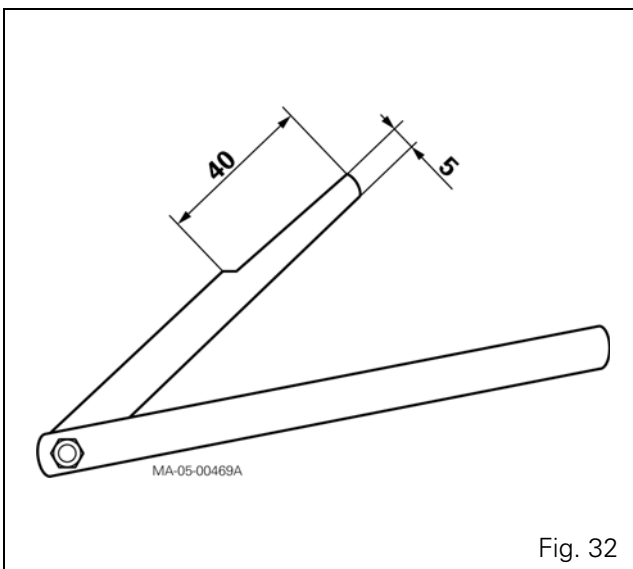

Fig. 32
- **Shim hinged on suitable fixture** (Fig. 32)